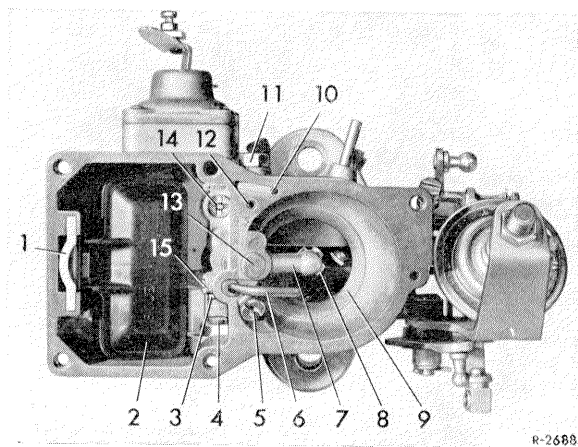

Fig. 13 Carburetor Solex 38 PDSI
Here, compensating air is added in the usual manner by air compensating nozzle (5). The venting nozzle (13) prevents any lifting suction at mixture outlet. A bushing with the mixture outlet holes (8) is pressed into outlet arm (fig. 13).
Main nozzle (3) is mounted in wall of housing without main nozzle holder. Unscrew carburetor cap to remove main nozzle. Remove closing screw (4) with a short screw driver and unscrew nozzle from outside (fig. 13).
During the pump stroke, fuel will escape from bore (15) (see fig. 13). This relief bore in the pump duct prevents dribble of the injection pipe.